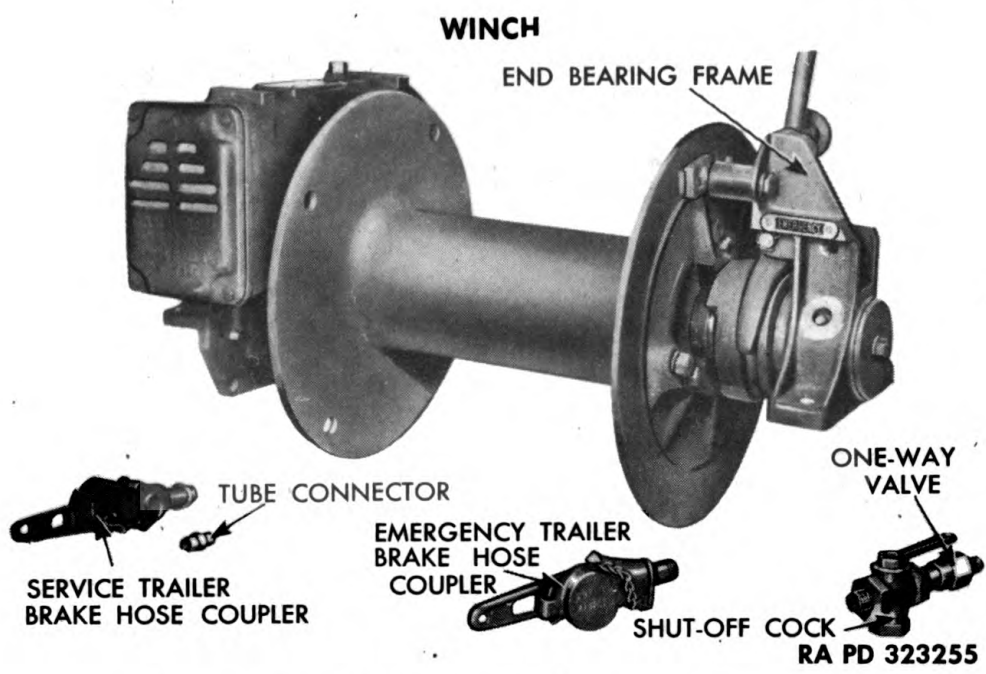

Figure 262 — Trailer Air Brake Fittings Removed
b. **Remove Hose Couplers, Shut-off Cock, One-way Valve, and Connector** (fig. 262). Unscrew emergency trailer brake hose coupler and nipple from front side of end bearing frame. Unscrew shut-off cock, nipples, and one-way valve from rear side. Unscrew service trailer brake hose coupler and nipple from front side of air line bracket next to worm gear case. Unscrew tube connector from rear side.
j. Install Hose Couplers, Shut-off Cock, One-way Valve, and Connector (fig. 262). Screw service trailer brake hose coupler with nipple into front side of air line bracket next to worm gear case, and screw tube connector into rear side. Screw emergency trailer brake hose coupler with nipple into front side of end bearing frame, and screw shut-off cock with nipples and one-way valve into rear side.